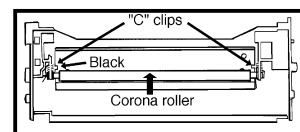

Figure 6
- Remove the wiper blade (2 screws- Fig. 6). Clean, inspect and lubricate; replace if necessary.